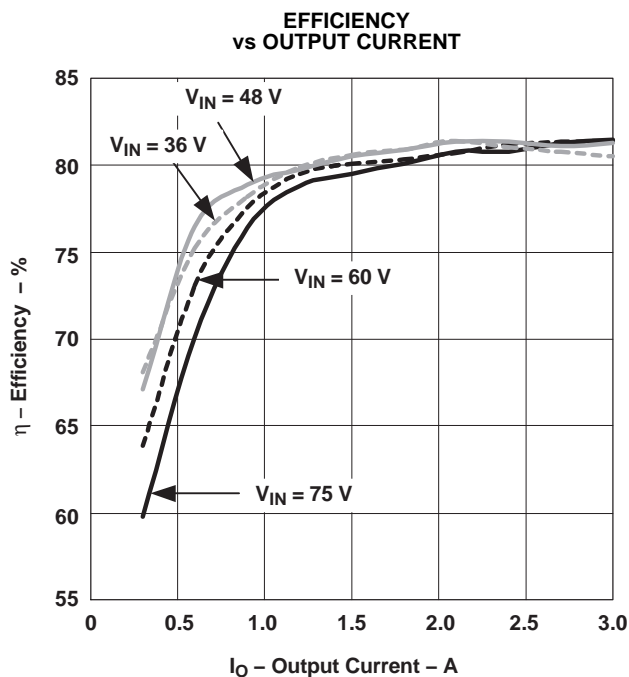
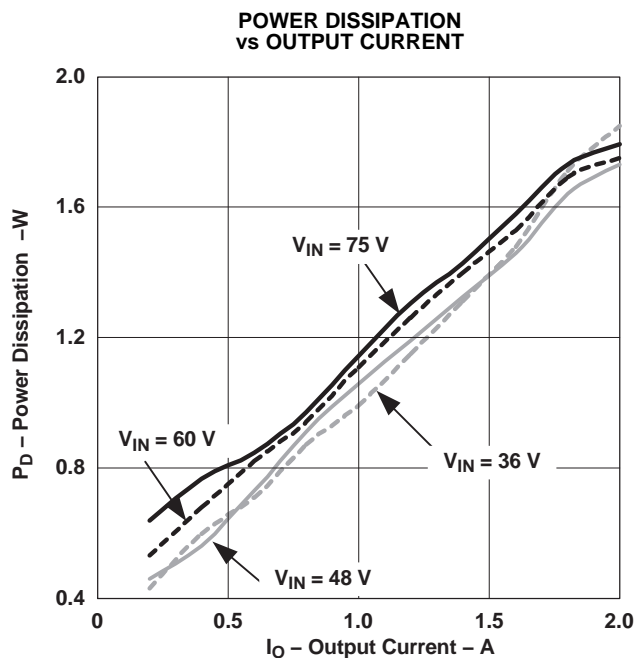
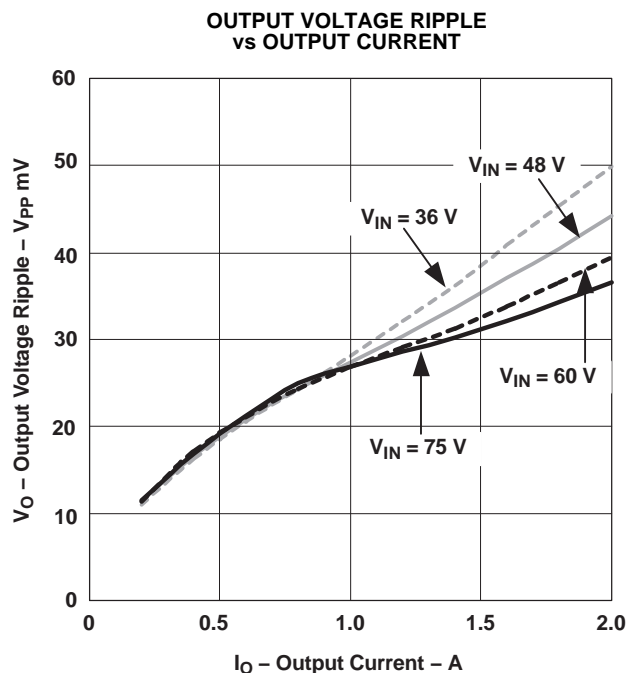

Figure 5.
Figure 6.
Figure 7.
- (3) All data listed in Figure 5, Figure 7, and Figure 6 have been developed from actual products tested at 25°C . This data is considered typical data for the dc-dc converter.